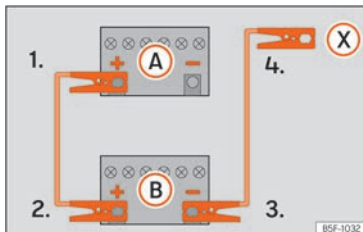

Fig. 45 Diagram of connections for vehicles without Start Stop system
2. Connect one end of the *red* jump lead to the positive (+) terminal of the vehicle with the flat battery (A) »» Fig. 45.
3. Connect the other end of the *red* jump lead to the positive terminal (+) in the vehicle providing assistance (B).
- 4a. *In vehicles without a Start-Stop system:* connect one end of the *black* jump lead to the negative terminal (-) of the vehicle providing the current (B) »» Fig. 45.